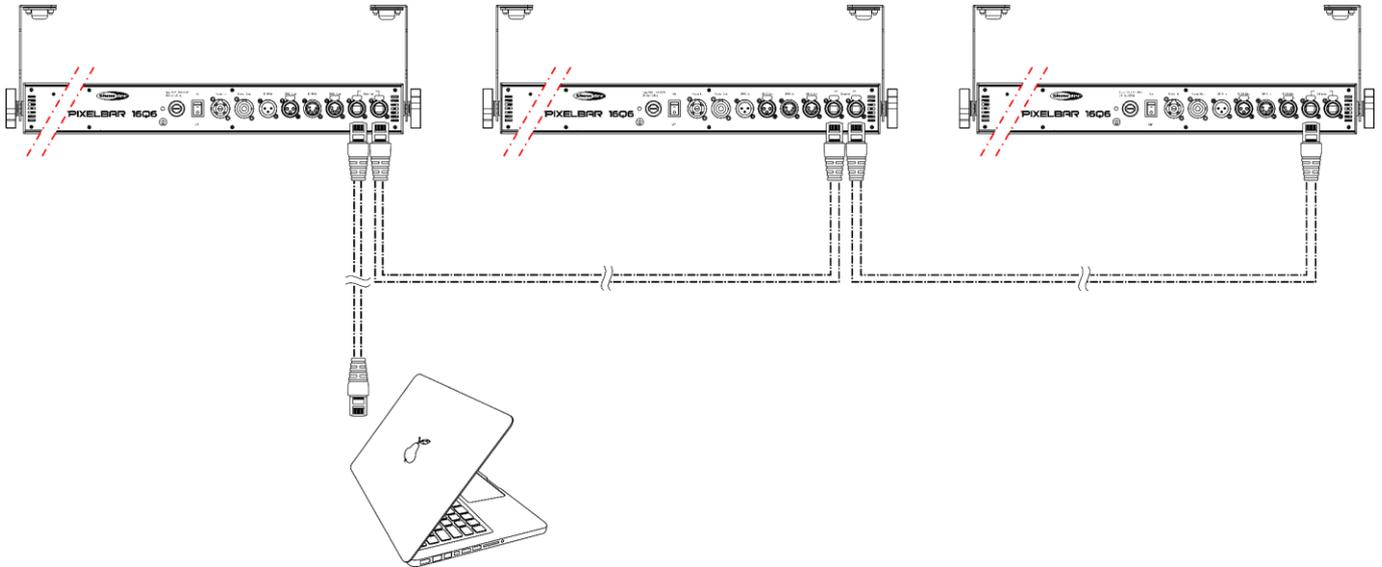

Fig. 13
- 03) Repeat step 2 to connect all devices as shown in Fig. 13.